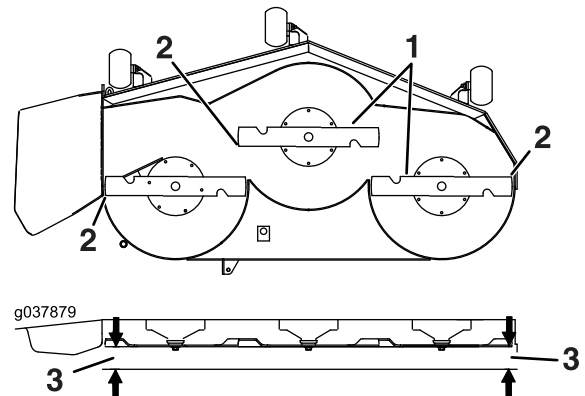

Figure 94
6. Measure between the blade tip and the flat surface (Figure 94). If both measurements are not within 5 mm (3/16 inch), adjust the leveling; continue with this procedure.
14. Carefully rotate the blades side to side (Figure 94).